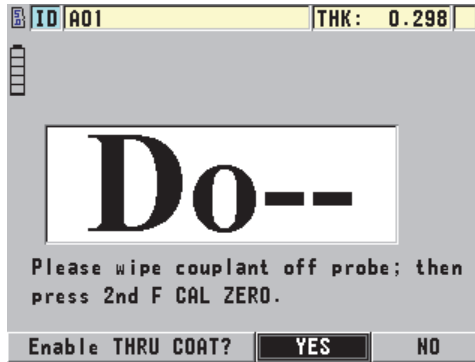

Figure 6-6 Opening the THRU-COAT setup dialog box
4. Press **[2nd F]**, **[CAL ZERO]** (**Do ZERO**) (see Figure 6-6 on page 79).